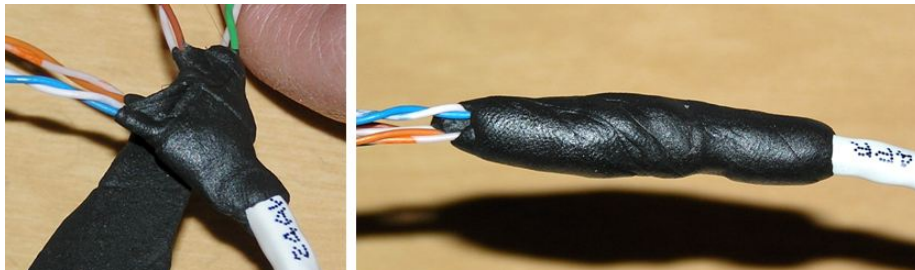

Figure 2.7-1. Butyl Rubber Tape Wrapped to Waterproof the Tether Cable Sheath's Opening
1. Using a ½” (1.5 cm) piece of butyl rubber tape, stretch the tape to about twice its relaxed length and wind it among and around the four wire pairs where they emerge from the outer jacket of the thruster end of the tether cable. Press it over the jacket opening so that it extends at least ½” on each side of the opening, as shown in Figure 2.7-1. Knead and work it in between the wires well so that it seals both around and between the wires and forms a smooth seal over the jacket opening to prevent water from getting inside the tether cable.